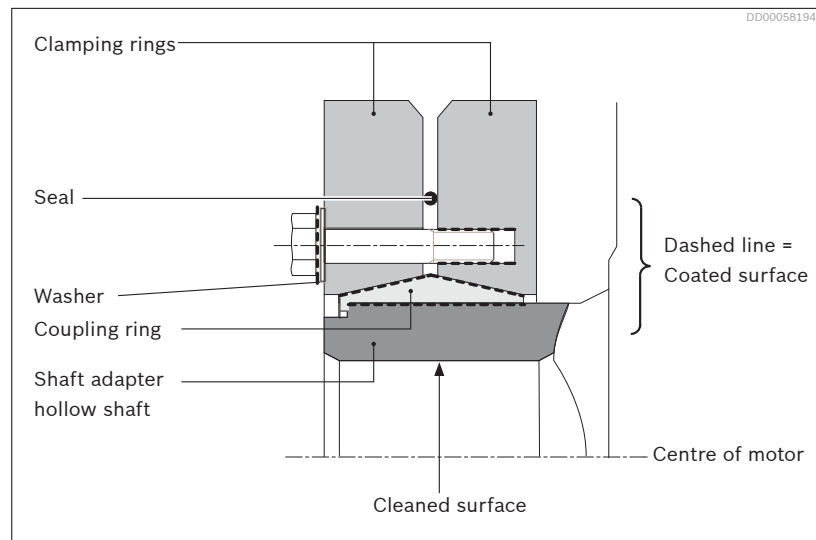

Fig. 35: Shrink disc
1. You should note that the couplings are from the factory lubricated with MoS₂ (grease) on the conical surfaces and the screws (see Fig. 35: Shrink disc).
- ▶ MoS₂ (grease) must under no circumstances be transferred to the surfaces between the driven shaft and the shaft adapter (see Fig. 35: Shrink disc).
- ▶ The conical surface between the coupling ring and the clamping rings as well as the screws shall be coated with MoS₂ (grease), (see Fig. 35: Shrink disc). This is done from the factory at delivery.